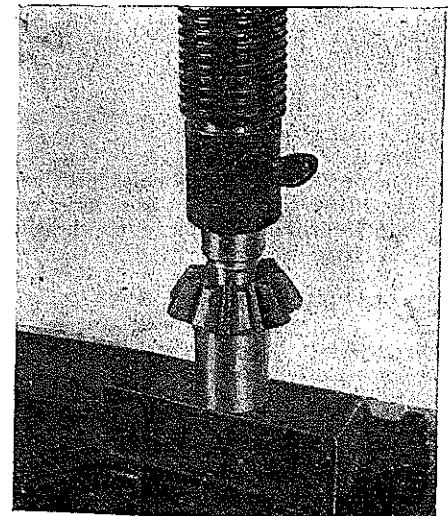

Fig. 166 Pressing bushing into differential pinion. Use adapter with correct size offset to fit bushing
3. Place pinion on anvil, Fig. 166. Position bushing in inner end of pinion bore and press squarely into position. Use adapter with correct size offset to fit bushing.